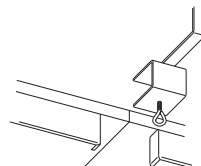

Figure 14
4. Attach net posts and net to table as shown in Figure 14.